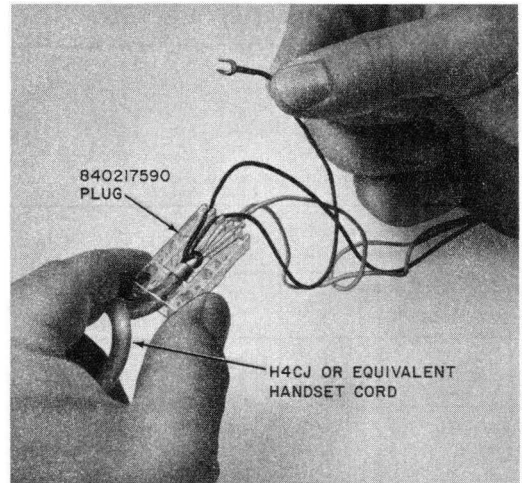

Fig. 4—Installation of Spade-Tipped Handset Cord Leads
3.08 *Installing Spade-Tipped Handset Cords in Early Production Sets Equipped with G12A Handset:* To install spade-tipped handset cord (H4CJ or equivalent) remove J Hook Stayband from the cord. Cut back and remove cord sheath to stayband marks. Thread spade-tipped conductors through plug (Fig. 4) (spade tips must be bent to clear cord entrance). Pull cord until about 1/4-inch of cord sheath is in the central
Note: On later version of the telephone set base, a plug (Fig. 4) is not required and a notch is provided on front lip of base pan for J Hook Stayband of nonmodular type cords.